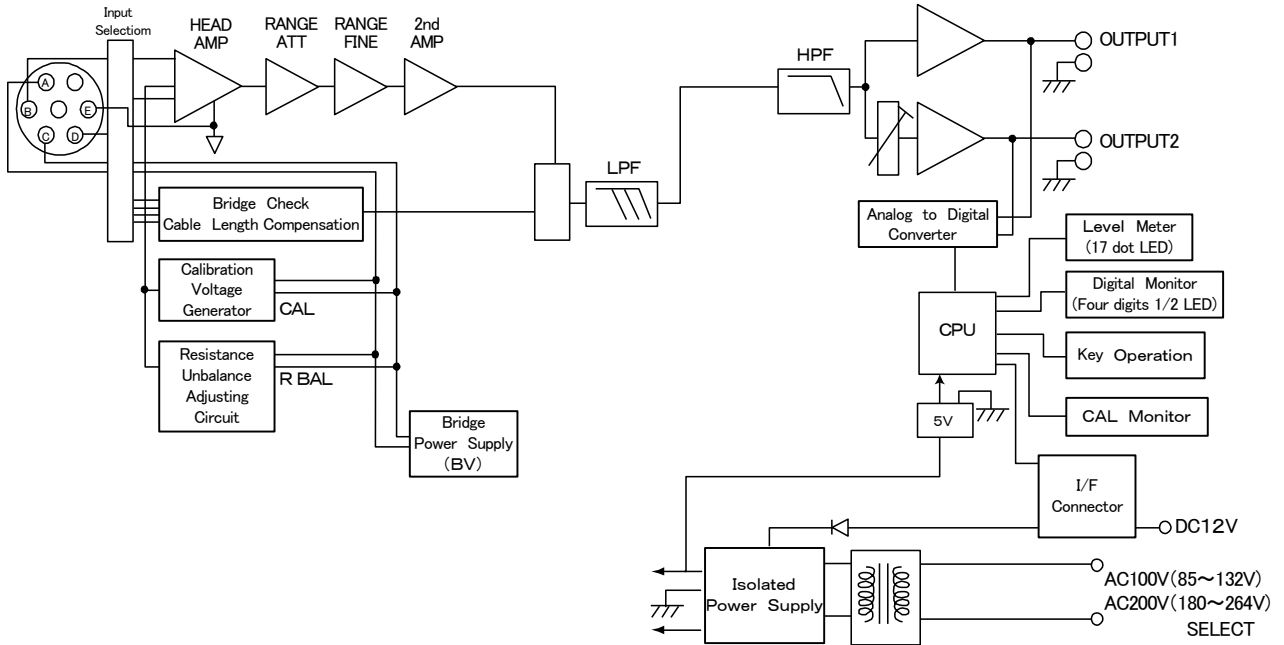

Figure 5-1 AS2503 Block Diagram
5.1 Flow of Measurement Signal (Refer to figure 5-1)